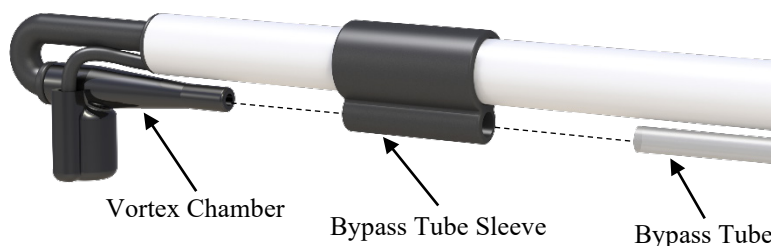

FIGURE 9-2. Exploded image of vortex intake with bypass tube pulled from bypass tube sleeve, and bypass tube sleeve pulled back away from vortex chamber
1. Pull the bypass tube out of the bypass tube sleeve (see FIGURE 9-2). If the tube is visibly dirty, remove the section of tubing by loosening the 1/4-in Swagelok nut on the other end. Shake the tube out, or if needed, flush it out with a solvent such as water or a water-isopropyl alcohol solution. The tubing can also be replaced with 63.5 cm (2.1 ft) length of high-density polyethylene tubing of 1/4-in outer diameter and 1/8-in inner diameter.
3. Slide the bypass tubing sleeve about 3 cm (1.2 in) along the intake towards the sample cell until there is enough space to pull the base of the vortex chamber out of the sleeve. Refer again to FIGURE 9-2.